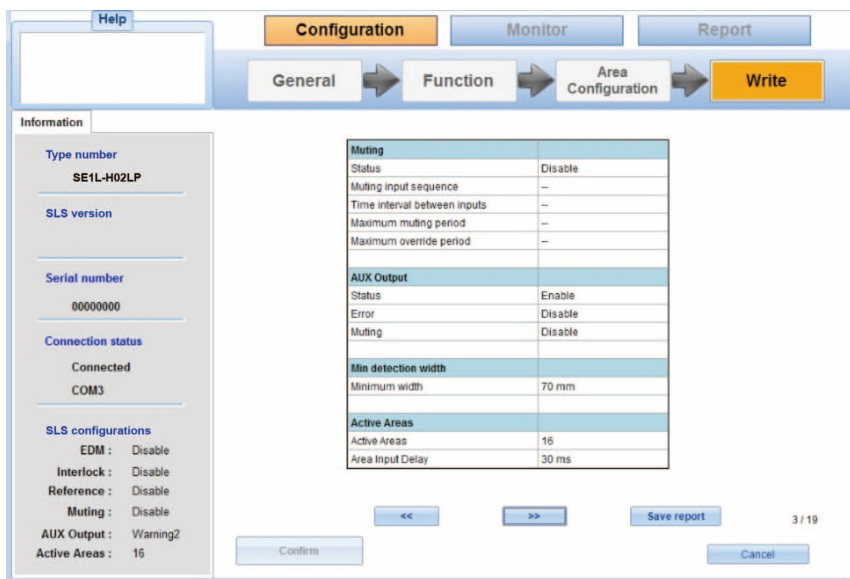

Figure 7-53. Functions configured
g) After the forward button is clicked, a window displaying the configurations of Muting, AUX Output, Minimum detection width and Active areas are as shown in figure 7-53.